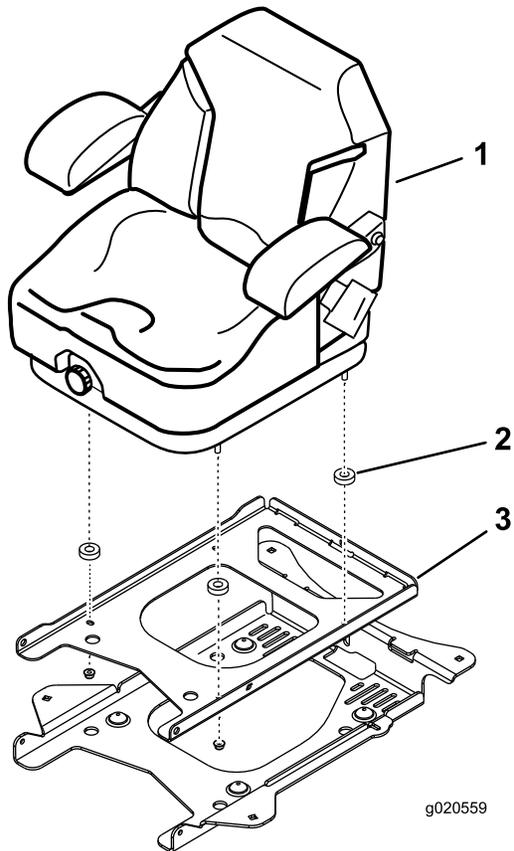

Figure 8
3. Install a spacer onto each seat stud (Figure 8).